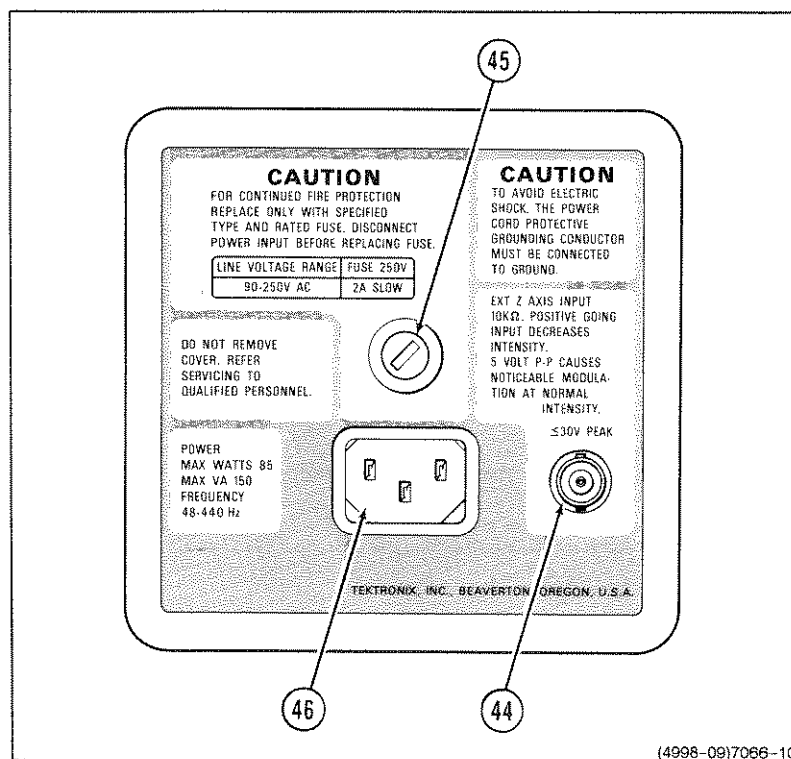

Figure 3-7. Rear panel.
Refer to Figure 3-7 for location of items 44 through 46.
- ④④ **EXT Z-AXIS Input Connector**— Allows external signals to be applied to the Z-Axis circuit to control the intensity of NON-STORE waveform displays. Applied signals do not affect the display waveshape. External signals with fast rise and fall times provide the best defined intensity modulation. Noticeable intensity modulation is produced at normal viewing intensity levels by a 5 V p-p signal. The Z-Axis signals must be time-related to the trigger signal to obtain a stable intensity-modulation pattern on the displayed waveform.